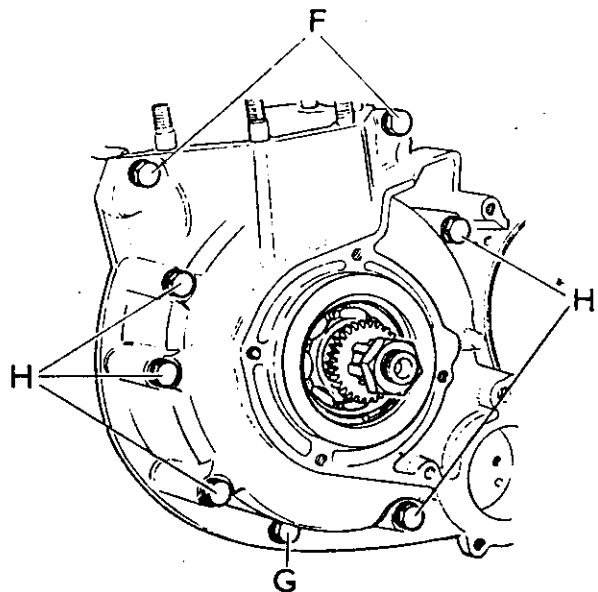

FIG. B.61: Crankcase screws, drive-side.
To remove drive-side crankcase remove the two bolts (F) from the crankcase mouth, the single bolt (G) from beneath the case, and the five bolts (H) from the front and back of the case (see Fig. B.61).